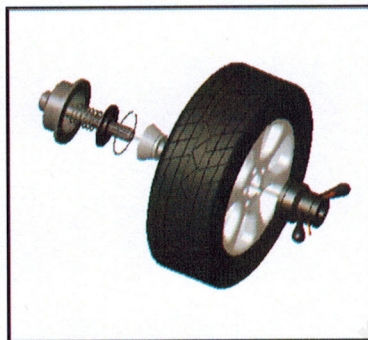

Fig. 6-1
- A.** Positive positioning (see figure 6-1)